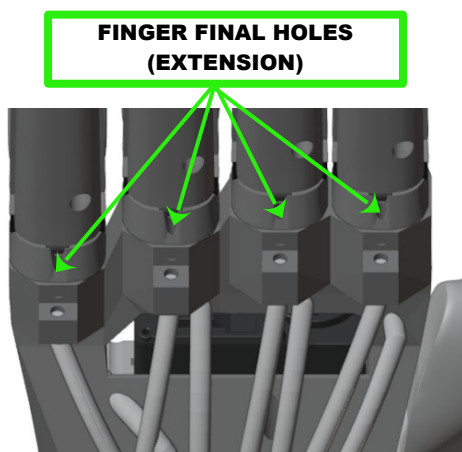
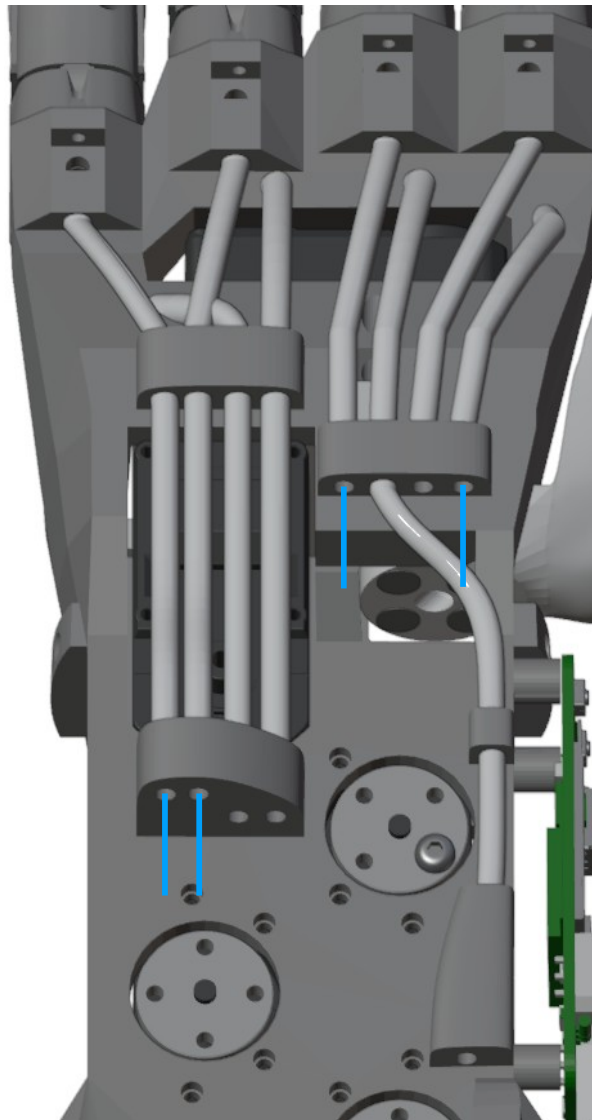

Figure 5.46: Tendon inlet holes (extension)
Figure 5.47: Extension ends of the tendons emerging from the Bowden tubes
3. On the rear of the skeleton: insert the two ends of the nylon needle into the finger's final hole and then into the inlet hole of the Bowden tube below (figure 5.46).
5. Insert the extension end of the tendon into the loop of the nylon needle left outside the finger's final hole (figure 5.46) and pull the ends of the nylon needle from the other end of the Bowden tube until the entire tendon comes out of the outlet hole (figure 5.47)